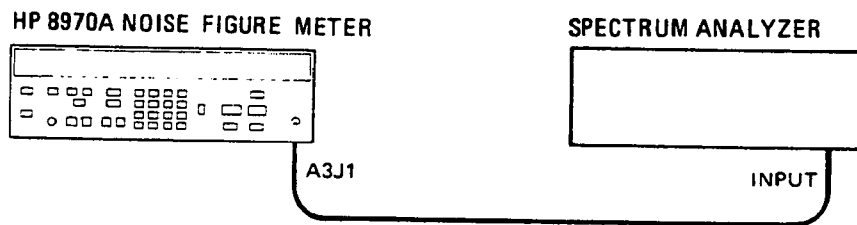

Figure 5-2. 280 MHz Oscillator Adjustment Setup
3. With all equipment power off, connect the equipment as shown in Figure 5-2.